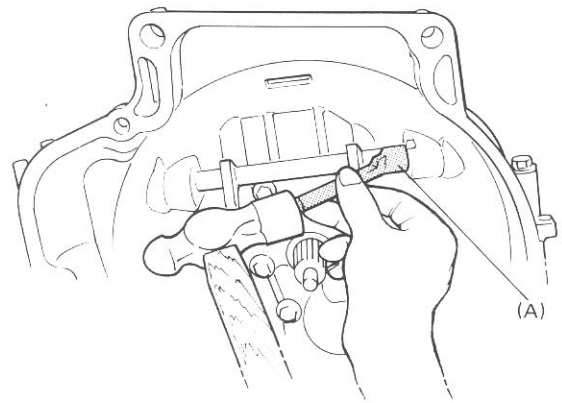

Fig. 13-3-2
- 3) Remove clutch release shaft spring from shaft. With special tool (A) applied in such a position as shown in Fig. 13-3-2, tap the end of special tool to take out bush and cap. Clutch release bush remover (A) (09925-48210)